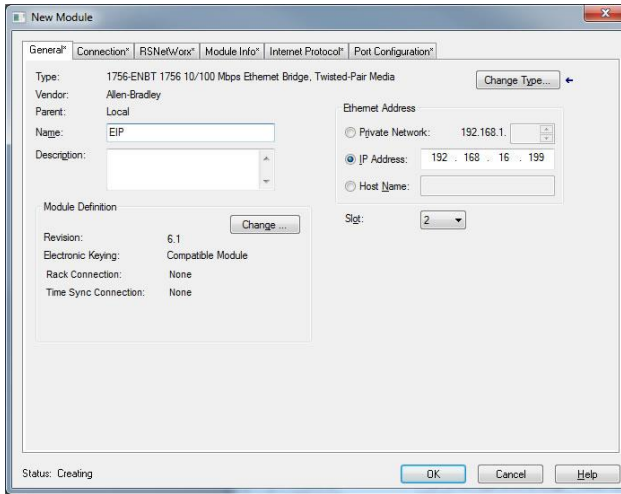

Figure 25: Identifying the New Module
- 6) The "New Module" window will open. Refer to Figure 25.